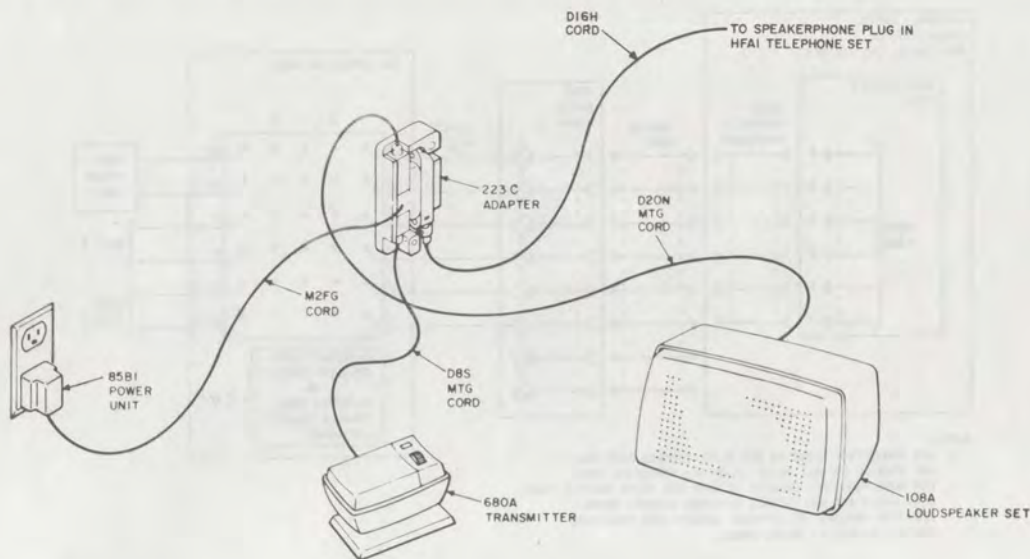

Fig. 45—4A Speakerphone Installation and Connections
- Plug the connectors of the mounting cords from the loudspeaker, the transmitter, and the 85B1 power unit into the connector of the D16H-50 cord supplied with the adapter (Fig. 45). Assemble this group of connectors in the 223C adapter and install the adapter cover.